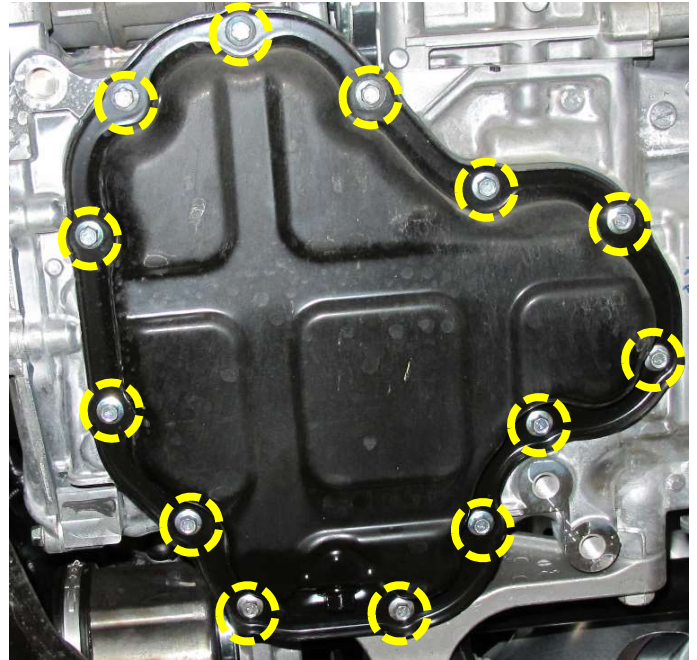

Figure 2
- Remove the (13) bolts from the oil pan (Figure 2)